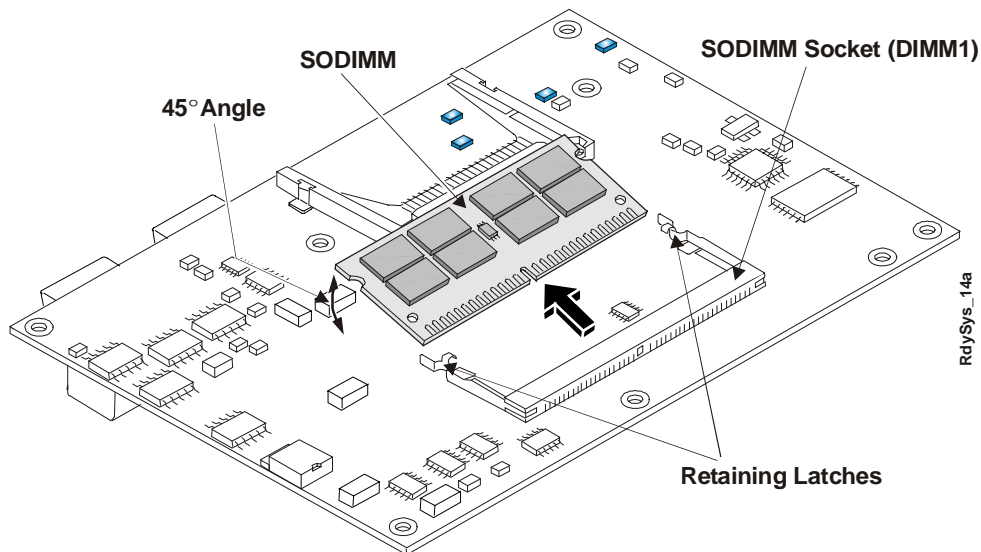

Figure 4-11. Removing SODIMM from Socket
7. Turn the ReadyBoard model over to access the bottom of the board while laying on a flat anti-static surface. See Figure 4-11.
8. Locate the SODIMM socket (DIMM1) on the bottom of the ReadyBoard model. See Figure 4-11.
9. Open both retaining latches to release the SODIMM from the socket. See Figure 4-11.
10. Using the card edges, lift the SODIMM completely away from the socket. See Figure 4-11.